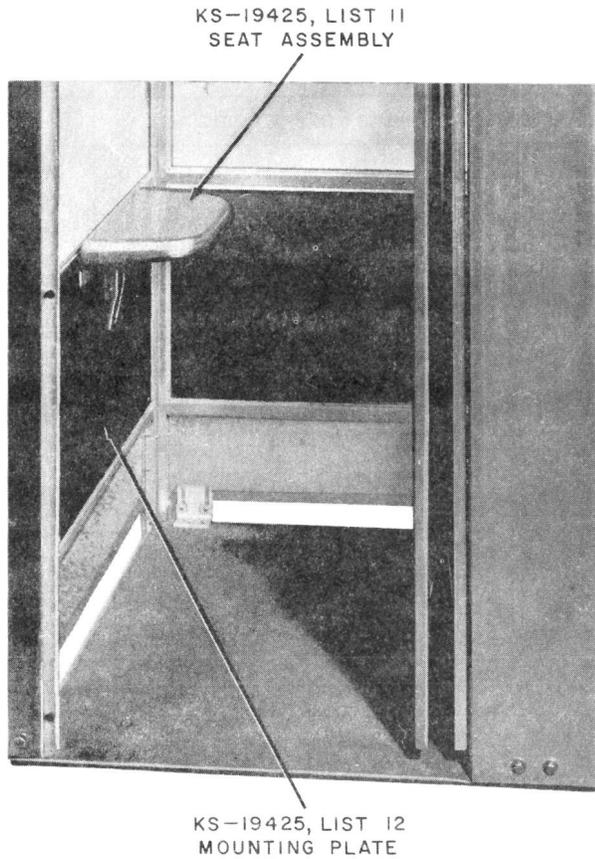

Fig. 11—KS-19425, List 11 Seat Assembly With KS-19425, List 12 Mounting Plate
2.22 A KS-19425, List 11 seat assembly (Fig. 11) may be used if desired.
2.23 A KS-19425, List 12 mounting plate (Fig. 11) must be used for mounting the seat.